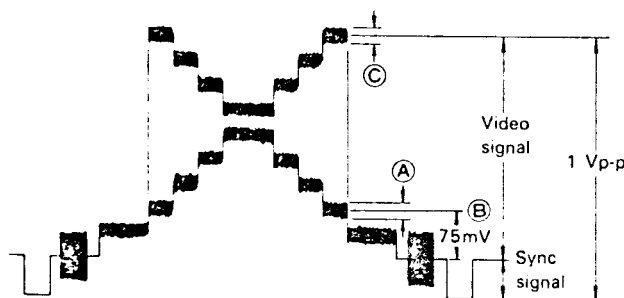
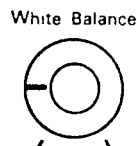

Fig. 20
Fig. 25
- 2) Connect an oscilloscope to the video output terminal (CN205 ⑥).
- 3) Adjust the aperture of the lens to make the video waveform in Fig. 20 1.0 Vp-p .
- 4) Adjust VR104, VR106, VR108 to set (A) (carrier leak) in Fig. 20 to minimum, and (B) (set-up) to $75 \text{ mV} \pm 25 \text{ mV}$.
- 3) Adjust VR110, VR111 with VR109 fixed, to minimize ③ shown in Fig. 20.
- 4) When A in Fig. 20 is more than 100 mVp-p with the sensitivity switch set to "STANDARD", adjust black/white balance and pulse canceller again.
- 2) Turn VR101 (white balance) to the position in Fig. 25.
- 3) Connect an oscilloscope to the video output terminal (CN205 ⑥).
- 4) Adjust VR102, VR103 to minimize ③ (carrier leakage) in Fig. 20.
Note: After dark current is adjusted, adjust VR101 (white balance) to the position shown in Fig. 25.
- 3) ③ in Fig. 20 should be less than 80 mVp-p, and ④, less than 50 mVp-p. When this specification is not satisfied, adjust the black balance and white balance again.